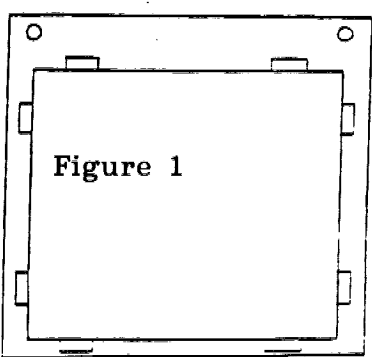
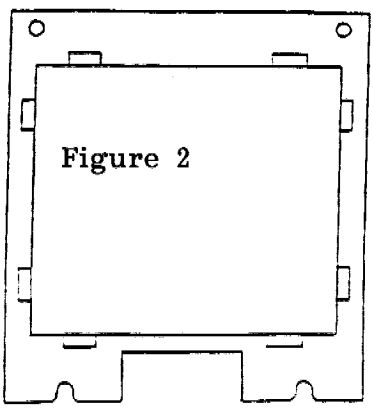

Figure 1
Figure 2
2. Remove the Dollar Bill Validator, P.O.S. retainer nuts (4), and P.O.S. Window retainer frame.
3. At this time, visually check plastic P.O.S. Window. If the bottom portion of the P.O.S. Window does not extend down below bottom P.O.S. Window studs (See figure 1, page 1) you will need to add (1) nylon spacer to each of the bottom studs only. If P.O.S. Window extends down below bottom P.O.S. Window studs (See figures 2 & 3, page 1) discard nylon spacers.